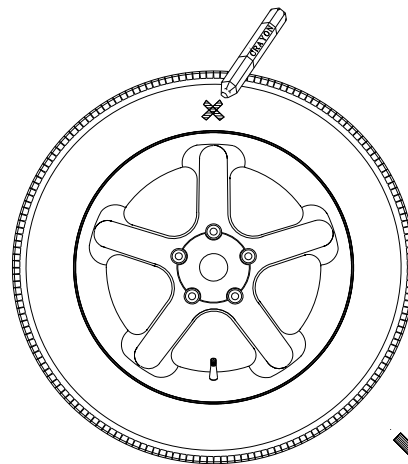

Figure 27 - Step 2, valve at bottom, mark top of tire with X, press "F"
(1) The operator should turn the wheel and mark an X at the 12 o'clock when the valve is at the 6 o'clock position. *Figure 27*